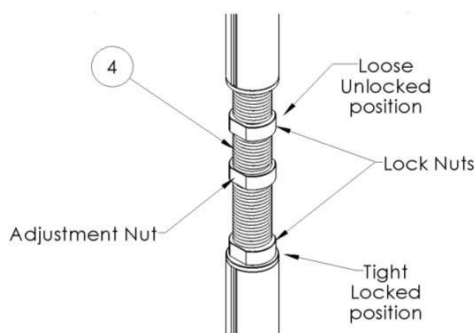

FIGURE 7
7. Using the adjustment Wrench, rotate the Adjustment Nut on THREADED ADJUSTMENT ASSEMBLY (# 4) in a **CLOCKWISE** direction to allow the pole to expand between the floor and the ceiling. Make sure the pole is perpendicular to the floor in all directions and then tighten the Lock Nuts as shown in Figure 7.